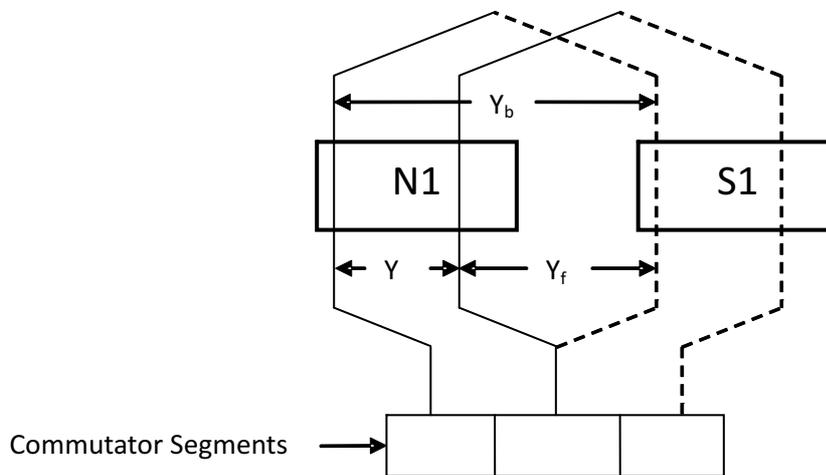

Fig.3.9 - Lap winding
**3.8 LAP WINDING** : When the finishing end of the first coil is connected to the starting end of the next coil which starts from the same pole, as shown in Fig. 3.9, where the first coil started is called as lap winding.
From Fig. 3.9, for lap winding, the front pitch,  $Y_f = Y_b - Y$  3.20
From Fig. 3.9 or from equation 3.20, front pitch,  $Y_f = 11 - 2 = 9$  or  $13 - 2 = 11$  (odd integer).